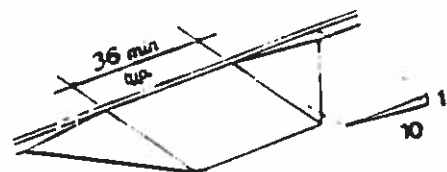

Fig. 13
**4.7.6 Built-up Curb Ramps.** Built-up curb ramps shall be located so that they do not project into vehicular traffic lanes (see Fig. 13).